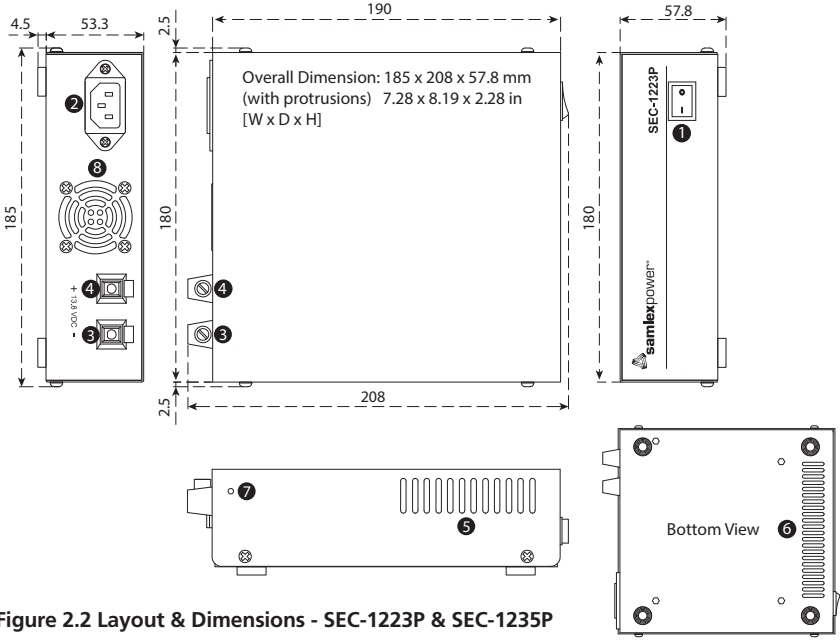

Figure 2.2 Layout & Dimensions - SEC-1223P & SEC-1235P
LEGEND for Fig 2.2
7. Lanced tab that slides into corresponding slot in the bottom housing. (There is one more lanced tab on the other corresponding side of the top cover). This ensures that the top cover fits properly only in one orientation i.e. with ventilation slots (5) positioned away from the fan discharge openings (8).
NOTES: 1. The top cover will fit properly only when the 2 lanced tabs (7, Fig 2.2) are oriented towards the DC output terminals (3) and (4).
SEC-1223P/1235P/ SEC-1235P-M are cooled by convection and by forced air cooling by temperature controlled fan. The fan sucks cool air from the inlet slots located towards the front sides of the top cover (5, Fig 2.2 and 2.3) and the front side of the bottom housing (6, Figs 2.2 and 2.3). The air is discharged from the rear ventilation openings in the bottom housing behind the fan (8, Figs 2.2 and 2.3).
In SEC-1223P/1235P/1235P-M, the fan sucks cool air from the inlet slots located towards the front sides of the top cover (5, Fig 2.2 and 2.3) and the front side of the bottom housing (6, Figs 2.2 and 2.3). The air is discharged from the rear ventilation openings in the bottom housing behind the fan (8, Figs 2.2 and 2.3). For proper air flow path from the front to the rear, it is necessary that the top cover is fitted with the side ventilation slots (5, Fig 2.2 and 2.3) oriented towards the front. To ensure this, 2 lanced tabs (7, Fig 2.2 and 2.3) are provided in the top cover that will slide into the corresponding slots in the rear side of the bottom housing. The top cover will not fit properly if the ventilation slots are facing towards the rear side because the lances tabs will interfere with the top edge of the front side of the bottom housing (there are no corresponding slots on the front side of the bottom housing)